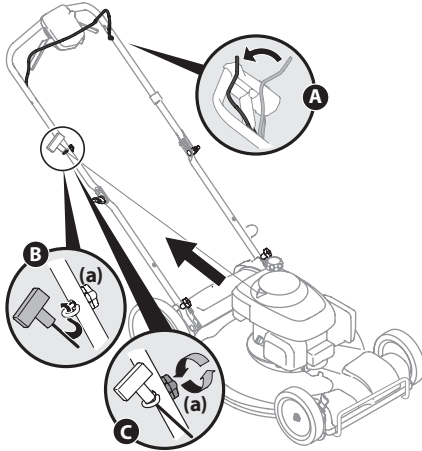

Figure 2-4
7. The rope guide is attached to the right side of the upper handle. Loosen the wing knob (a) which secures the rope guide and perform the following (See Figure 2-4):